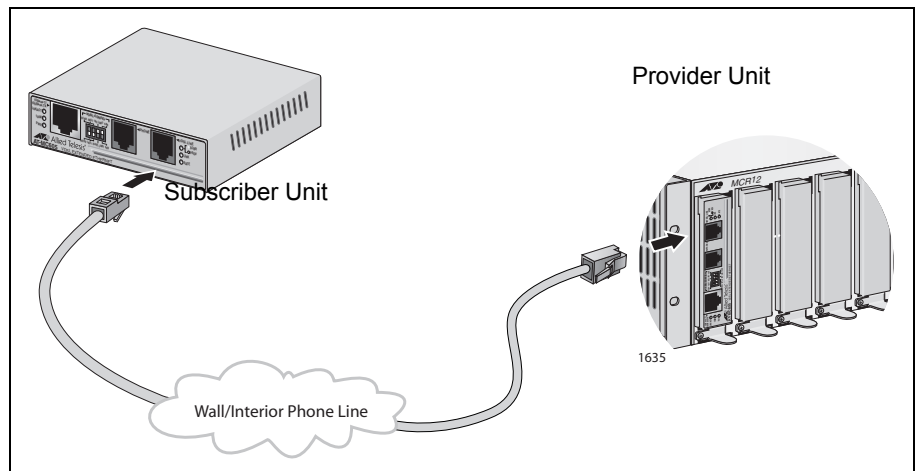

Figure 19. VDSL Line to Wall/Interior Phone Line.
3. Connect a telephone line cable from the VDSL Line port to the wall/interior telephone line, as shown in Figure 19, so that the Provider unit can communicate with the Subscriber unit.